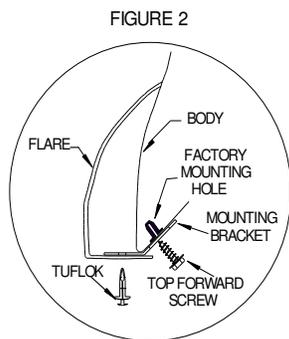

FIGURE 2
- (B) Attach mounting brackets to front flare through top three holes in flare and 1/4" hole in bracket with Tuf-Lok® fasteners. **See Figure 2 & 4.**